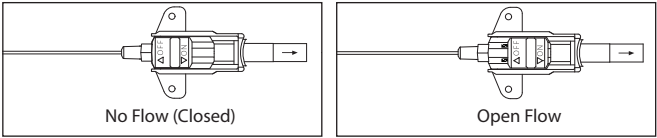

Figure 4
5. Ensure the FloSwitch is in the appropriate open position prior to needle insertion (see Figure 4).